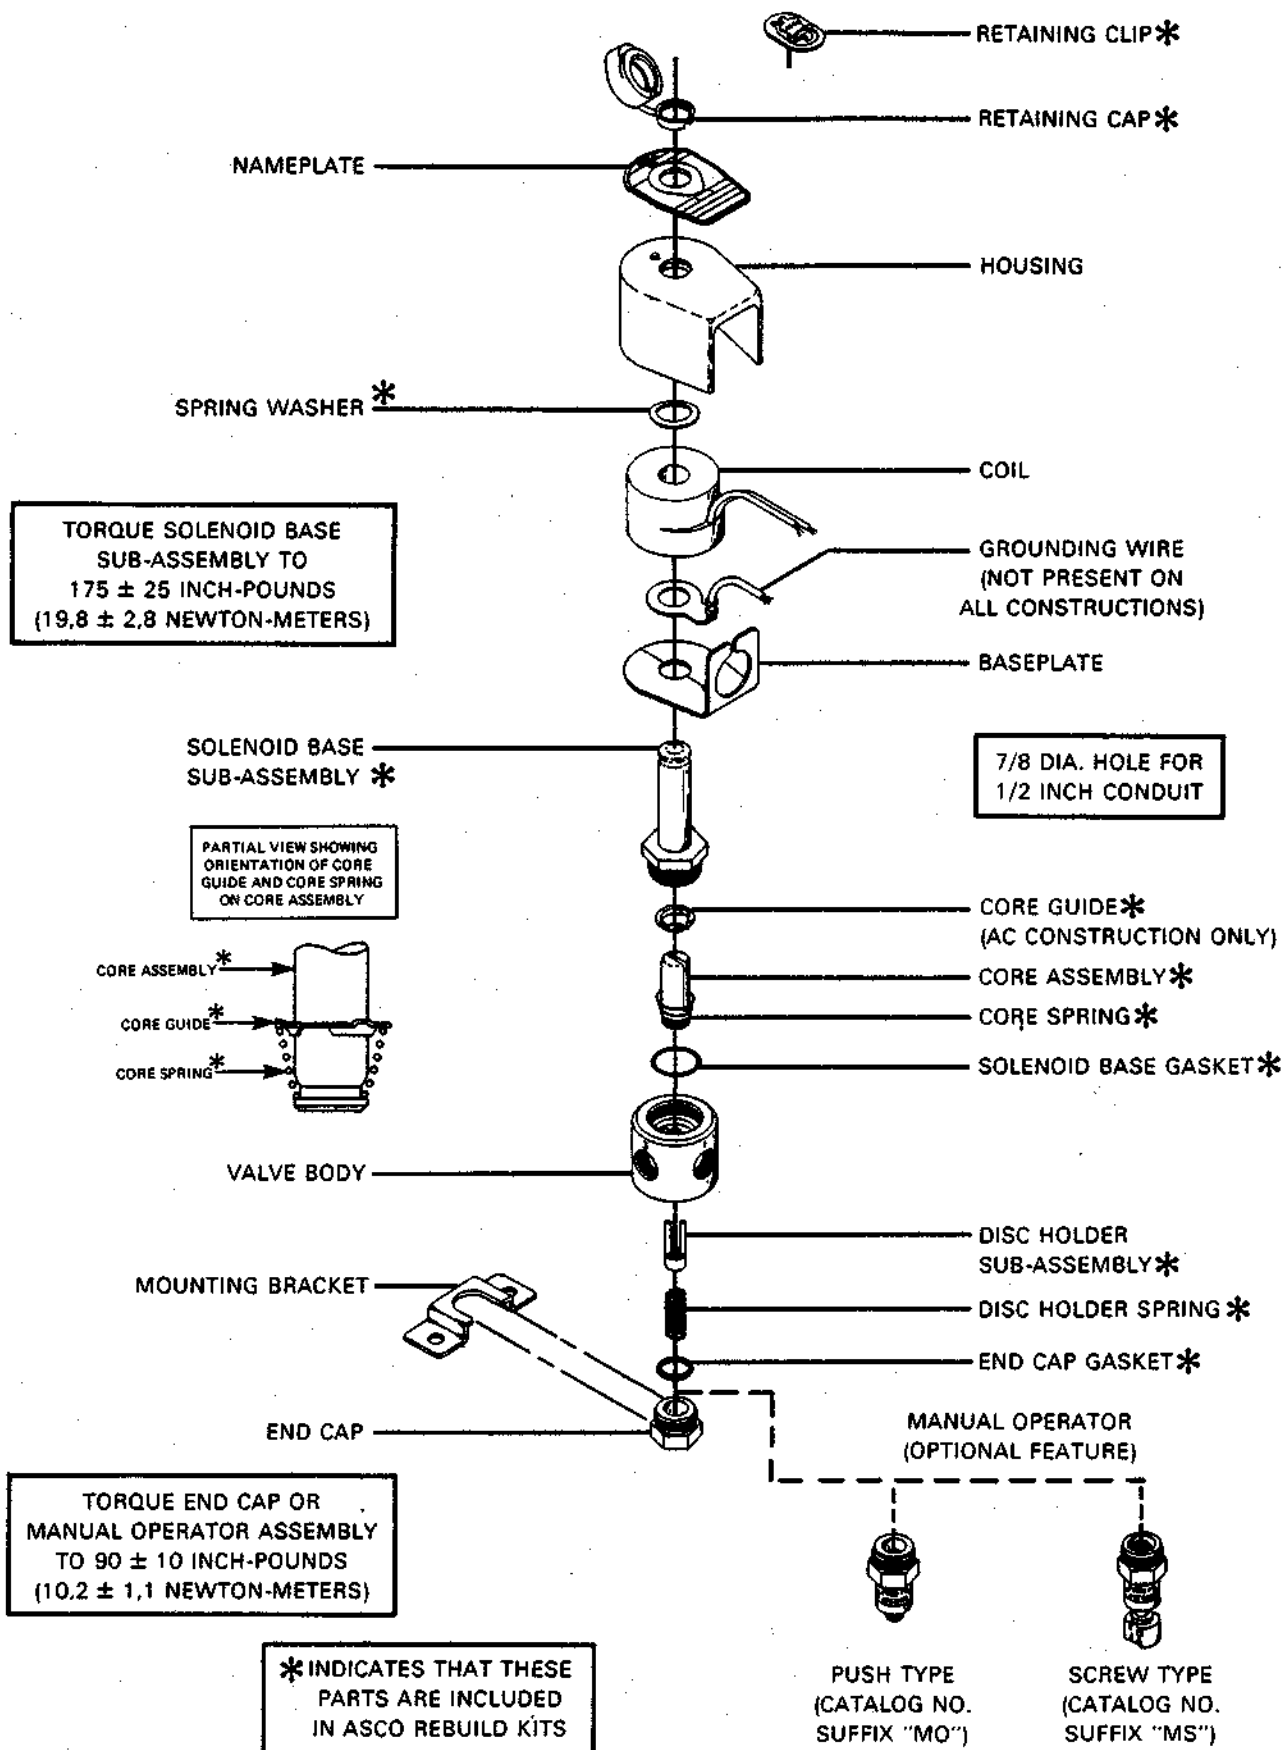

Figure 5. Bulletin 8320, Stainless Steel Construction
- **Junction Box:** This junction box construction meets Enclosure Types 2, 3, 3S, 4, and 4X. Only solenoids with 1/4" spade or screw terminals may have a junction box. The junction box provides a 1/2" conduit connection, grounding and spade or screw terminal connections within the junction box (See Figure 5).